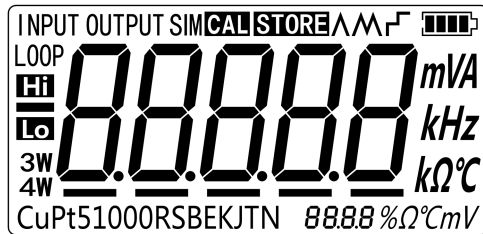

Figure 2.1-2
2. Press  for more than 2 seconds to turn on the calibrator. The calibrator checks itself, including check on internal circuit and LCD, during which, LCD displays all contents for 1s, the interface is shown in Figure 2.1-2: